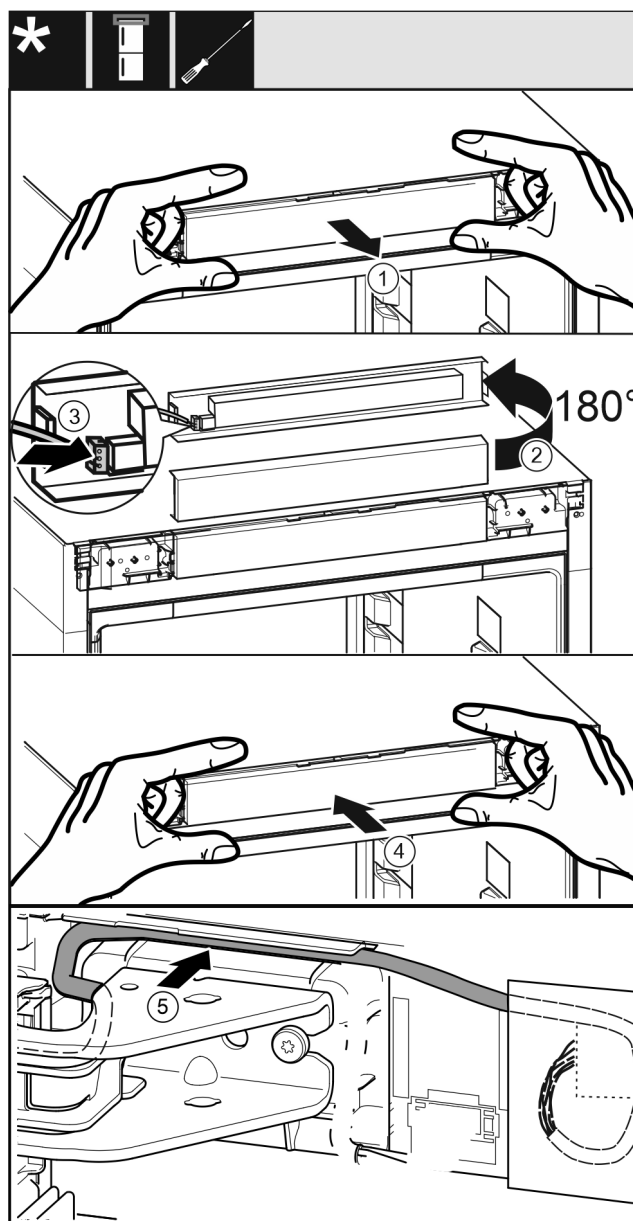

Fig. 45
- Remove the control panel trim Fig. 45 (1) carefully.
- Turn the control panel trim Fig. 45 (2) up by 180°.
- Engage the plug Fig. 45 (3) on the control panel trim.
- Re-engage the control panel trim Fig. 45 (4) on the appliance.
- Lay the cable Fig. 45 (5) carefully in the guide above the top swap bearing block.